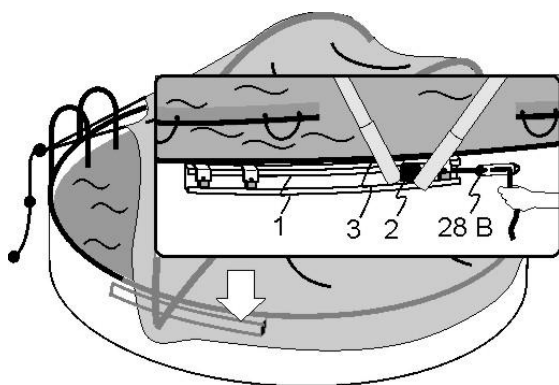

fig. 10.3
- Hang the pulling rope over the swimming pool stairs. Push plastic block to the end of the "C" profile and fasten the rope (4) into fastener (28/B) (fig. 10.3).
- If desired, both arches can be removed out of inserting tubes (3) and pulled of the swimming pool edge.